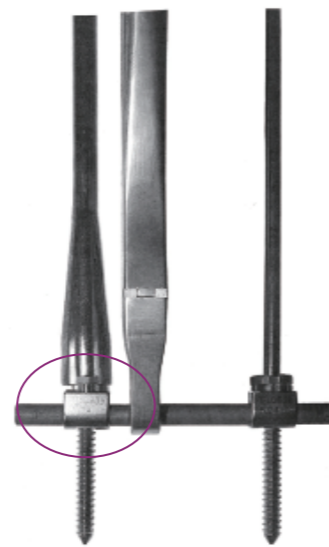
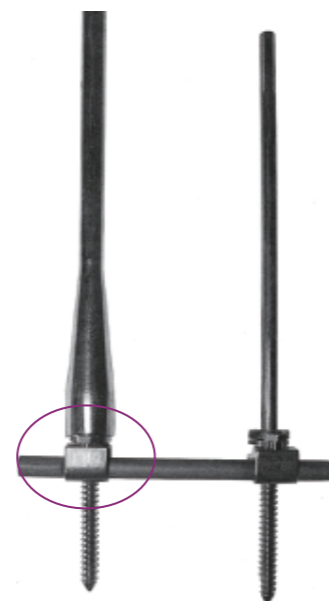

Fig.5a
Fig.5b
- On the two SCHANZ Pedicle Screws I on one side, first fix the two turn pliers at a distance of 5mm from the sleeve chuck (Fig.5a), or lock the 6mm nut directly (Fig.5b), and then set the two 11mm socket wrenches for unilateral distraction operation. After the distraction is in place, lock the 11mm nut.